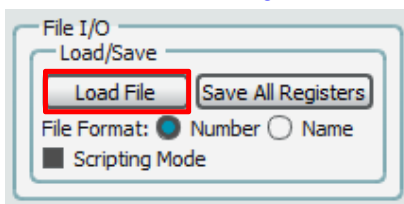

Figure 12: File I/O
1. In the **File I/O window**, click on the **Load File** button, see Figure 12.